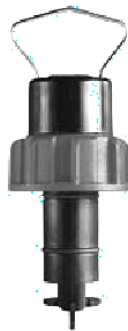

Figure 40. Sensor Model P, P1, and P2
- Model 2536-P0 for diameters from 2 to 4 in (50 to 100 mm) (**Figure 40**),
- Model 2536-P1 for diameters from 5 to 8 in (100 to 200 mm) (**Figure 40**),
- Model 2540 for lines over 10 in. (250 mm) in diameter)(**Figure 40**. Sensor Model P, P1, and P2).